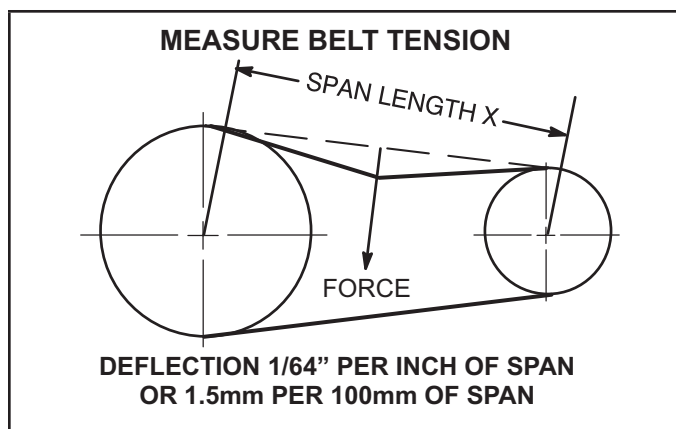

FIGURE 11
- 1 - Measure span length X. See FIGURE 11.